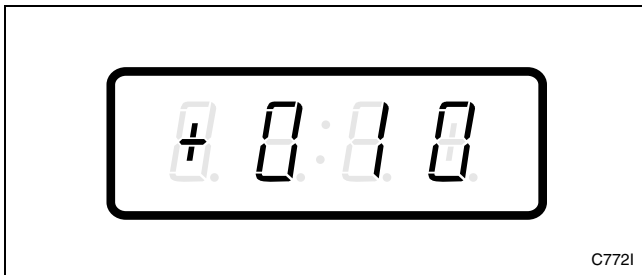

Figure 47
3. Press the DELICATES (+) or the COLD (-) keypad to scroll through the programmable options until “+010” appears in the VFD. Refer to *Figure 47*.